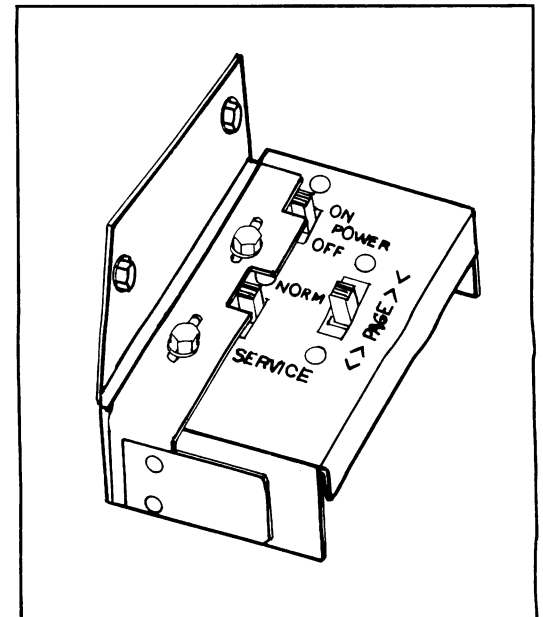

Figure 2-5 Service Switch
2. Move the SERVICE switch to the SERVICE position, if not already done (*refer to figure 2-5*).